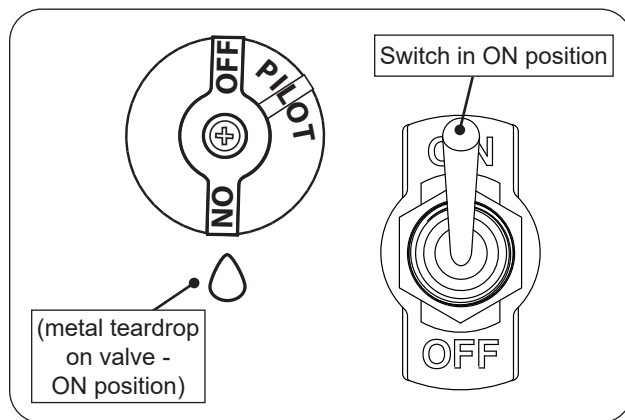

Fig. 28-1 Manual lighting
1. Ensure the pilot is burning. Turn the control knob counterclockwise ↺ to **ON** (see Fig. 28-1).
2. Flip the toggle switch to **ON** to ignite the burner (see Fig. 28-1).